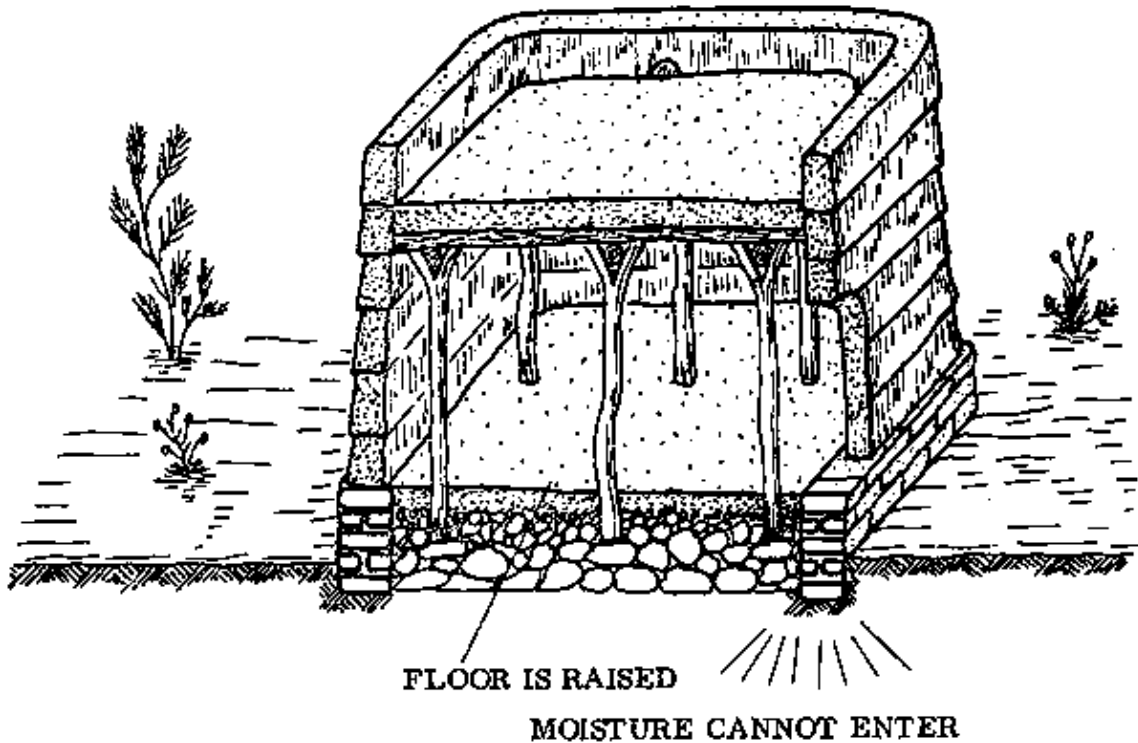
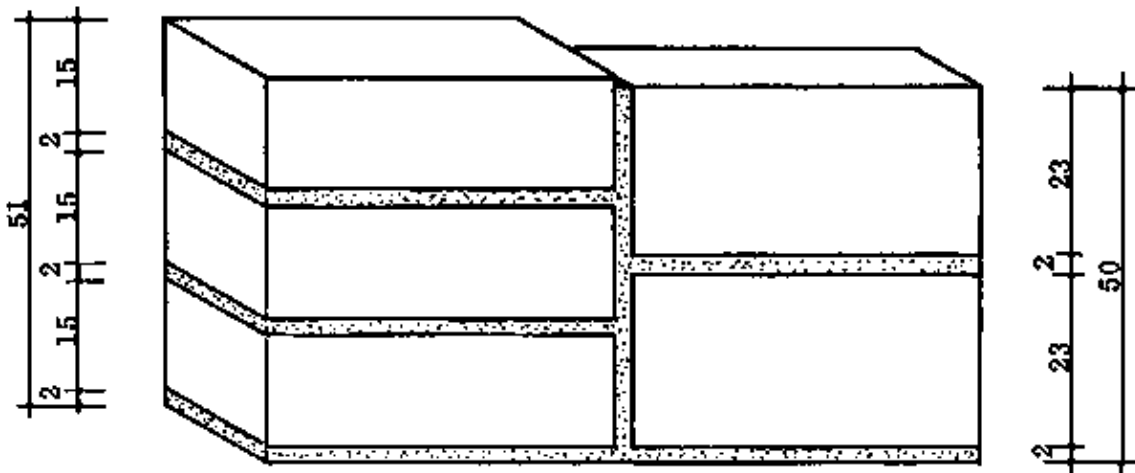

Fig. 2 BUILDING WITH FOOTING
Fig. 1
– COMPARE: Fig. 1 shows a building with no footing. The floor is at ground level and water can easily enter. The building in Fig. 2 rests on a footing and the floor is raised above ground level, so it will be drier and thus healthier to live in, and also less likely to collapse since the mud walls are kept drier.
The bonding problem arises from the fact that the dimensions of common sandcrete blocks make it difficult to form a bond between the edgewise courses and those laid flatwise. Fig. 1 shows that two courses laid edgewise do not exactly correspond with three courses laid flatwise: there is a 1 cm difference in height.